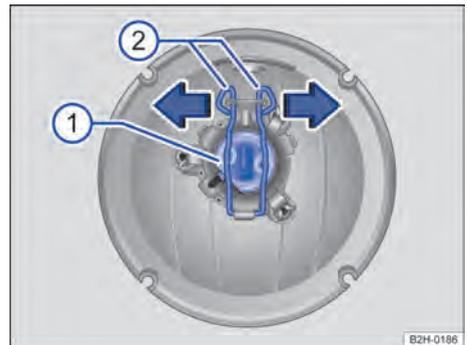

Fig. 168 Additional light on the vehicle roof: changing the bulb.
6. Push the catches downwards and unhook in the direction of the arrow → Fig. 168 ②.
7. Pull the bulb holder out of the reflector housing → Fig. 168 ①.
10. Push the catches downwards and hook them in against the direction of the arrow → Fig. 168 ②.